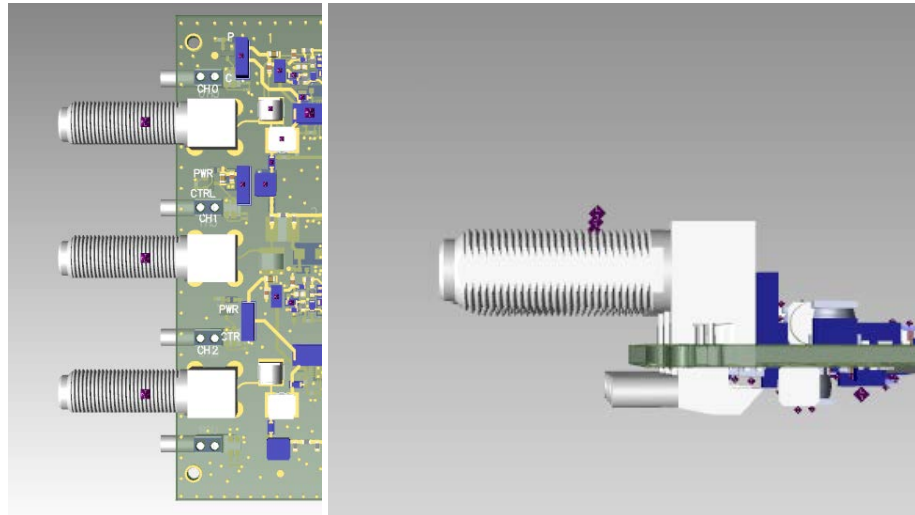

Figure 5 F-connector orientation on RCU2L, top view (left) and side view (right).
- Connectors make a 90° angle with the front edge of the PCB (left picture of Figure 5)
- Connectors are parallel to the PCB top side (right picture of Figure 5)